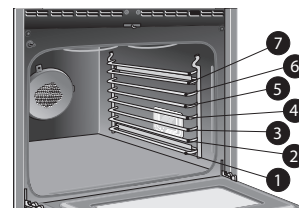
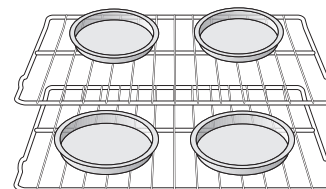

Figure 17: Rack positions
Figure 18: Spacing with multiple pans
- For best results when baking cakes using 2 glide racks, place bakeware on rack positions 2 and 6, (Figure 17) and position cookware allowing 2-4 inches (5-10cm) of space between the food items to ensure proper circulation.(Figure 18)
- For multiple-rack convection baking, place items on racks as shown in Figure 18.